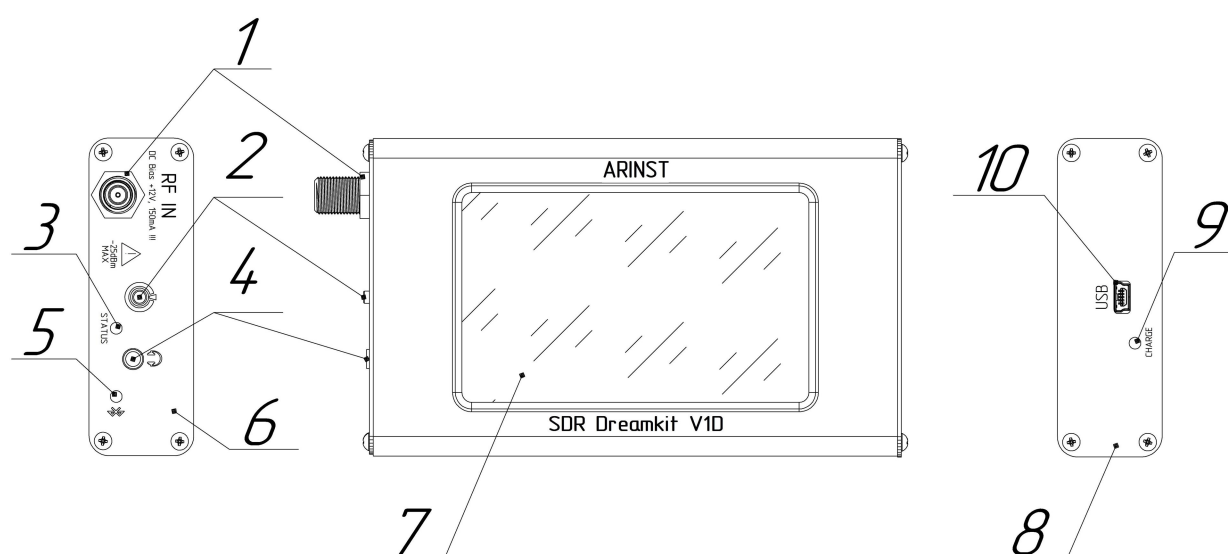

Figure 4.1 - External view of the device
5.1. The device structure is shown in figure 4.1.